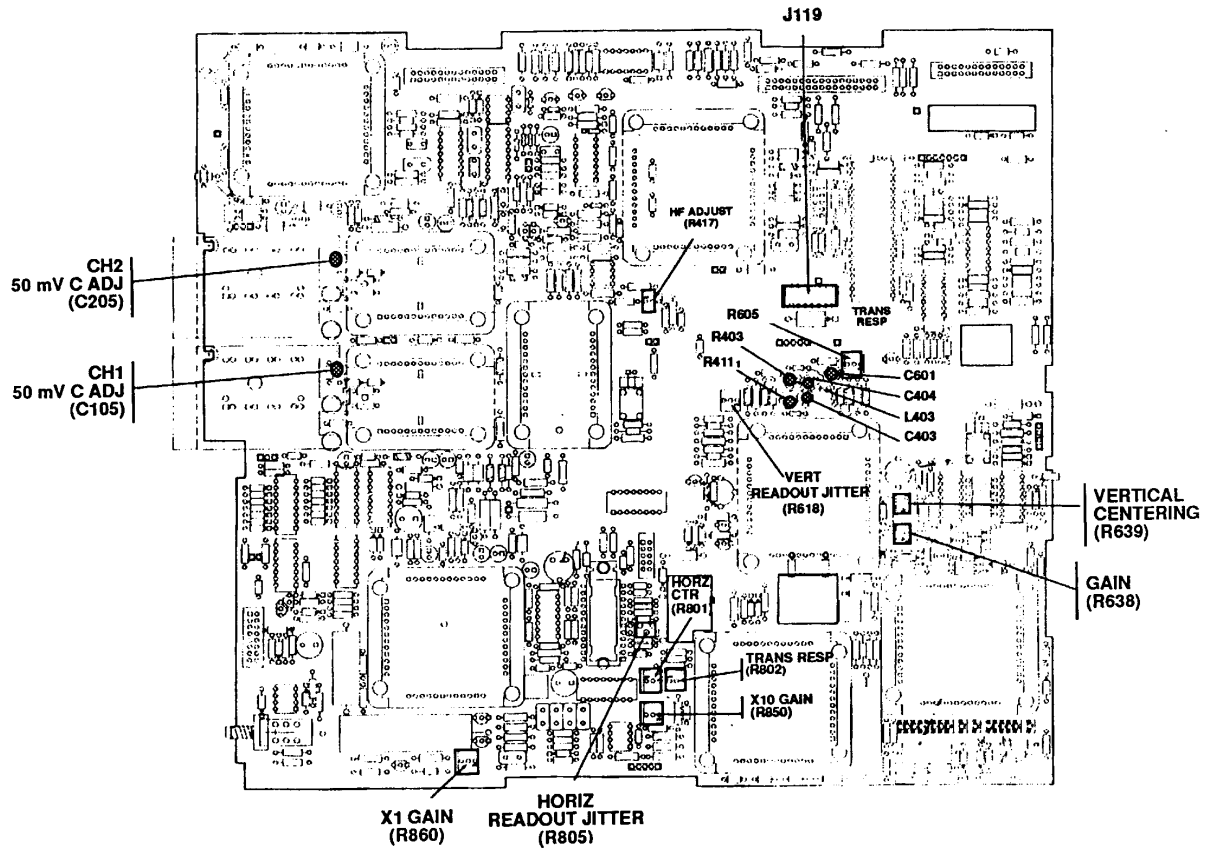
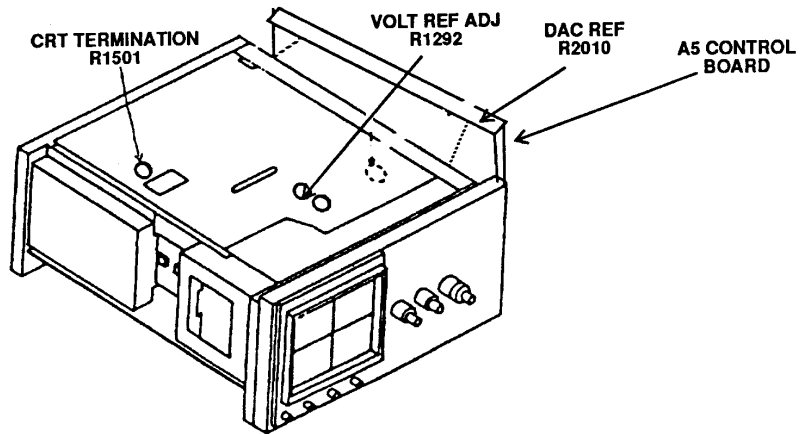

Figure 1. A1 main board - adjustment locations.
Figure 2. Adjustment locations.
- (1) Press **VERTICAL MODE** pushbuttons **CH 2, CH 3**, and **CH 4** to off.
- (2) Connect digital multimeter **HI** to TI J119 (fig. 1) pin 4 and **LO** to chassis ground. If digital voltmeter does not indicate between +9.99 and +10.01 V DC, perform **b** below.
b. Adjustments. Adjust VOLT REF ADJ R1292 (fig. 2) until digital multimeter indicates 10.00 V DC (R).
- (1) Connect digital multimeter **HI** to J119 (fig. 1) pin 13 and **LO** to chassis ground.
- (2) Press **Dt** pushbutton for a Δt display on crt.
- (3) Adjust D control ccw until digital multimeter indication remains at a constant value (approximately -1.25 V dc). Record indication.
- (4) Adjust D control cw until digital multimeter indication remains at a constant value (approximately 1.25 V dc). Record indication.
- (5) Add the absolute values of indications recorded in (3) and (4) above. If sum of indications does not equal 2.500 V dc, adjust DAC RF R2010 (fig. 2) for 1.250 V dc or best compromise on digital multimeter while repeating (3) and (4) above.
- (6) Disconnect digital multimeter.
- (7) Press **Dt** pushbuttons to off (no cursors on display).
- (8) Connect oscilloscope calibrator output to **CH 1** using a 5-80 pF standardizer.
- (9) Position oscilloscope calibrator controls for **AMPL MODE EDGE, VARIABLE ON**, and a 600 mV, 1 kHz output.
- (10) Adjust oscilloscope calibrator **VAR** control for a 6 division display.
- (11) Adjust 5-80 pF standardizer for a square front corner over the first 40 μ s (0.4 division) of the positive portion of waveform. Note waveform front corner for use in (14) below.
- (12) Position oscilloscope calibrator controls for a 300 mV, 1 kHz output.
- (13) Set **VOLTS/DIV** switch to 50 mV and repeat (10) above.
- (14) Adjust 50 mV C ADJ C105 (C205 for CH 2) (fig. 1) for same waveform front corner as noted in (11) above.
- (15) Set **VOLTS/DIV** switch to **100 mV**.
- (16) Repeat (9) through (15) above until no change is observed in the waveform front corner.
- (17) Press **VERTICAL MODE CH 1** to off and **CH 2** to on.
- (18) Press **TRIGGER SOURCE** pushbutton to **CH 2**.
- (19) Repeat technique of (8) through (16) above for **CH 2**.
(24) Press and release upper **TRIGGER COUPLING** pushbutton. Display readout will indicate **XI, X10, HRZ CTR, (step) 5, 10 ms** and two vertical cursors appear on the display.
(25) Position oscilloscope calibrator controls for 10 μ S output.
(26) If cursors are not aligned with 2d and 10th vertical graticule lines, adjust **X1 GAIN R860** (fig. 1), and **HRZ CTR R801** (fig. 1) to align the two cursors with 2d and 10th vertical graticule line (R).
(27) If TI does not display 1 time marker per division \pm 1 minor division, adjust **X10 GAIN R850** (fig. 1) for 1 marker per division (R).